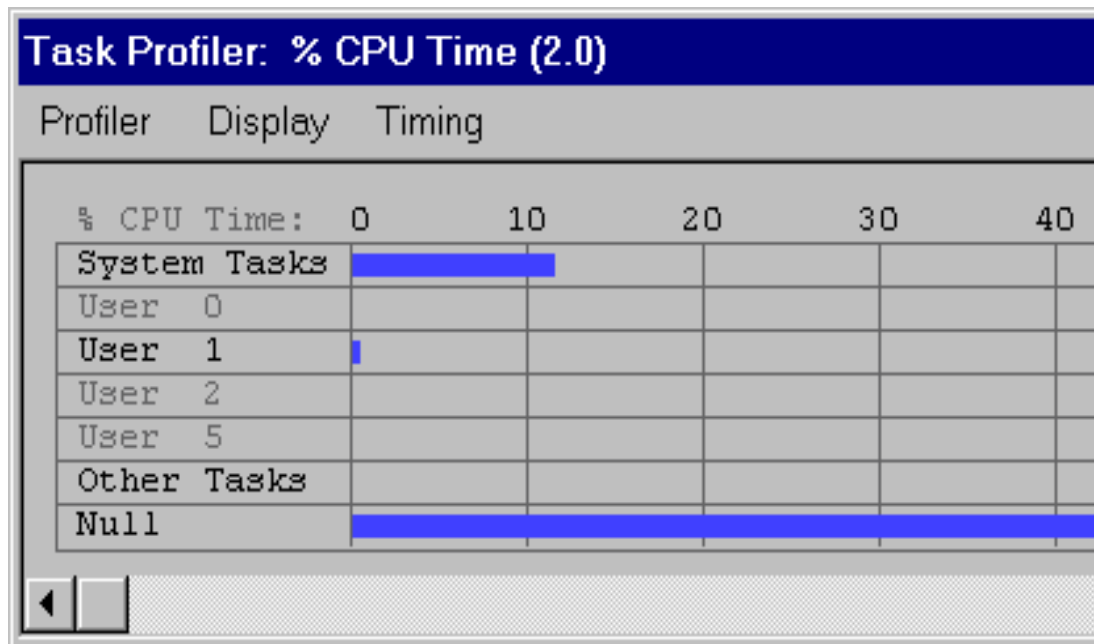
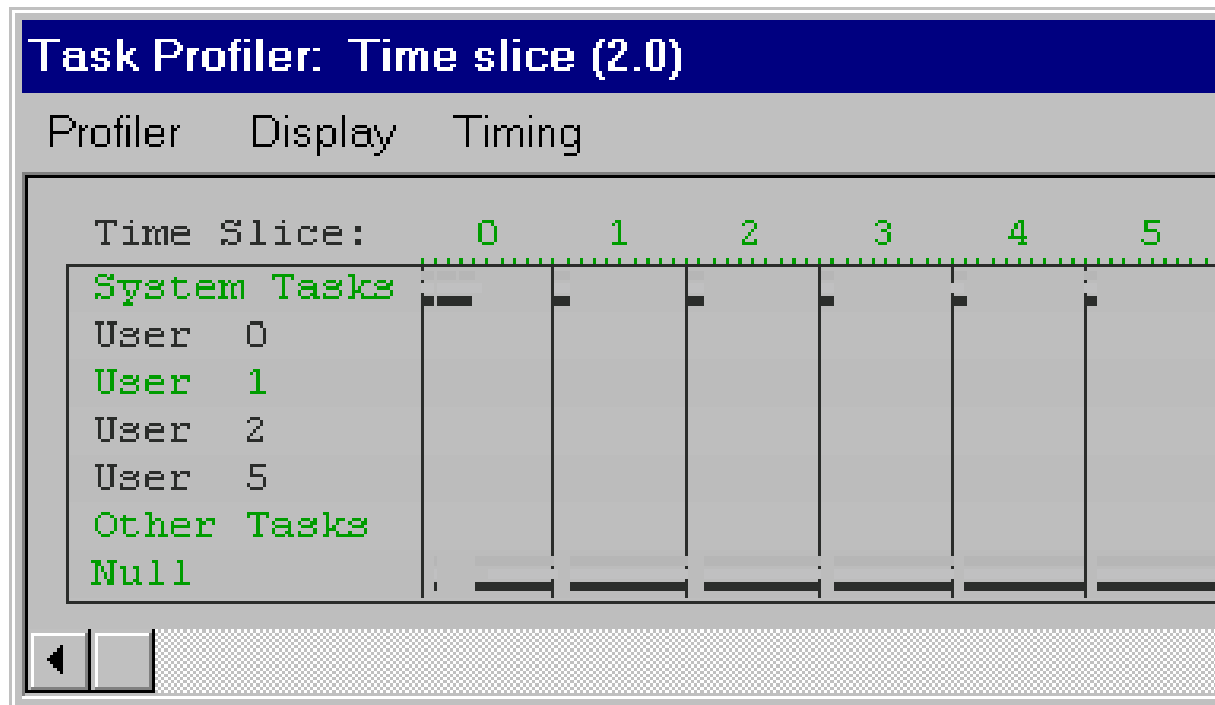

Figure 2-1. Percent (%) CPU Time Graph
Figure 2-2. Time Slice Graph
The profiler displays CPU usage on two different bar graphs, the % CPU Time graph or the Time Slice graph. The % CPU Time graph is a bar graph that shows the percent of time used per 16 ms major cycle by the system and user tasks (see Figure 2-1).
Figure 2-1 shows that the running system is allocating approximately 12 percent of its time to system tasks, zero (0) percent to user task 0, 1percent to user task 1, zero (0) percent to user task 2, and 88 percent to the null task. (The null task runs whenever no other tasks are available to run.)
The Time Slice graph is a bar graph that shows the CPU time that each task has used in each time slice. Data is shown for the last three 16 ms major cycles. These three major cycles are shown as red, white, and blue bars on each task line (see Figure 2-2).
Figure 2-2 shows a system running four concurrent user tasks. The red, white, and blue bars show the amount of time each task has used in each time slice for the previous three intervals. The interval time (2.0 seconds in Figure 2-2) is set with the Timing menu items.
Time Slice % CPU Time	This menu item toggles between the two display types. When % CPU Time is chosen, the program displays the graph shown in Figure 2-1. When Time Slice is chosen, the graph shown in Figure 2-2 is displayed.